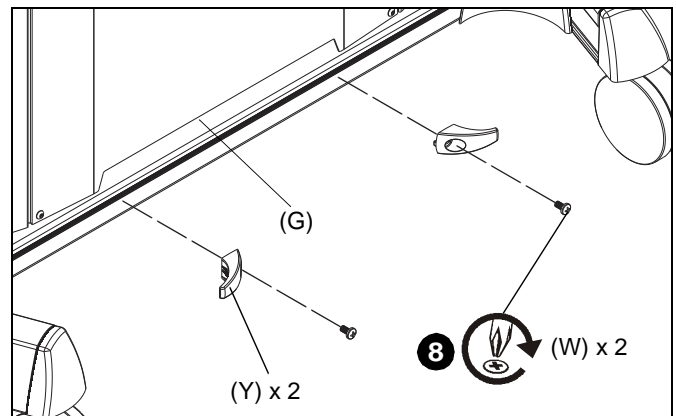

Figure 19
8. Use two 1/4-20 x 1/2" Phillips pan machine screws (W) to attach two cable hooks (Y) to bottom of column assembly (G). (See Figure 19)
WARNING: Do not attempt to raise or lower the adjustment carriage beyond its upper or lower limit. High and low points are shown in Figures 19 and 20.